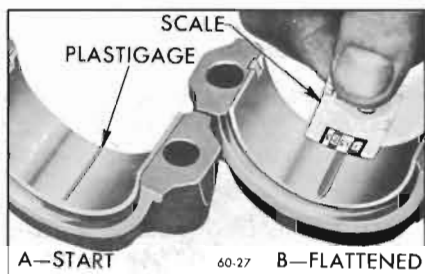

Figure 60-27—Checking Bearing Clearance with Plastigage
(Figure 60-27, View A). Install cap with shell and tighten bolt nuts to 50 ft. lb. torque.
5. Using the scale printed on the Plastigage envelope, measure the flattened Plastigage at its widest point. The number within the graduation which most closely corresponds to the width of Plastigage indicates the bearing clearance in thousandths of an inch. See Figure 60-27, View B.